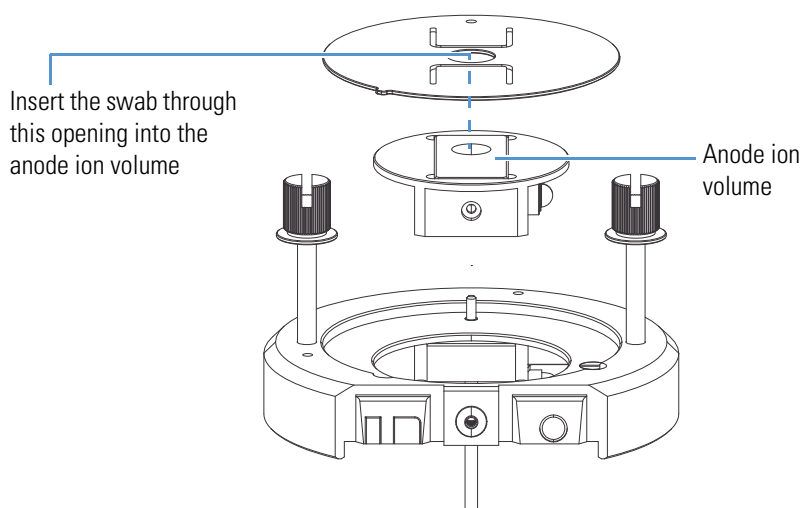

Figure A-8. Back of the IC source heater interface (exploded view)
4. On the back of the IC Source heater interface, insert a swab through the calibrant ion source retainer into the opening of the anode ion volume (Figure A-8), and then clean inside the opening.
5. Dry the component with nitrogen gas to make sure that all the solvent evaporates. Also purge through the gas connection at the top (facing front in Figure A-8).